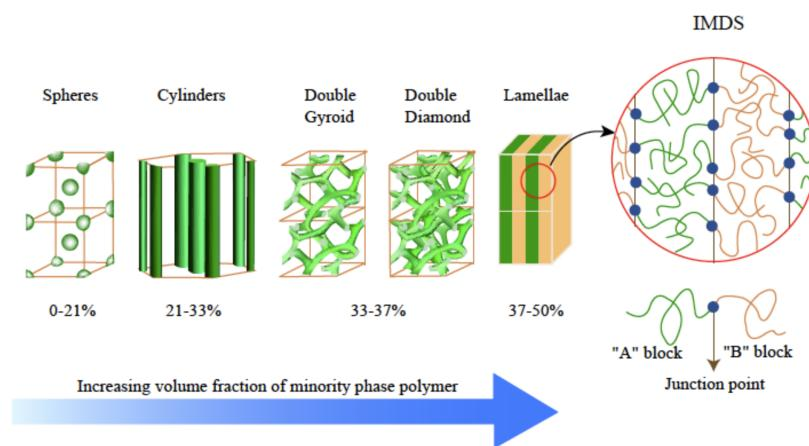

Figure 2.14: Microphase morphologies in diblock copolymers.
- In contrast to Figure 2.14, 40-60% gets you a lamellar state. This accounts for the fact that going on either side of 50% is equivalent.